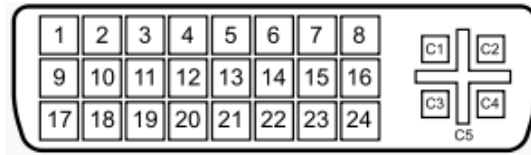

Figure 3-31: DVI-I Connector
- CN Pinouts:** See **Figure 3-31** and **Table 3-30**